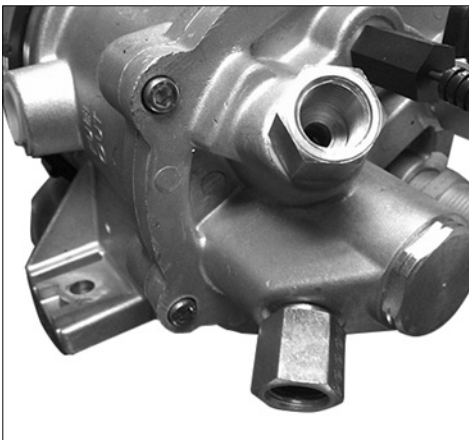

Figure 15: Parker Adapter 3/8-6 F50G
Step 1: Install Parker adapters 3/8-6 F50G into each port on the bottom plate of the Fuel Pro (Figure 15).